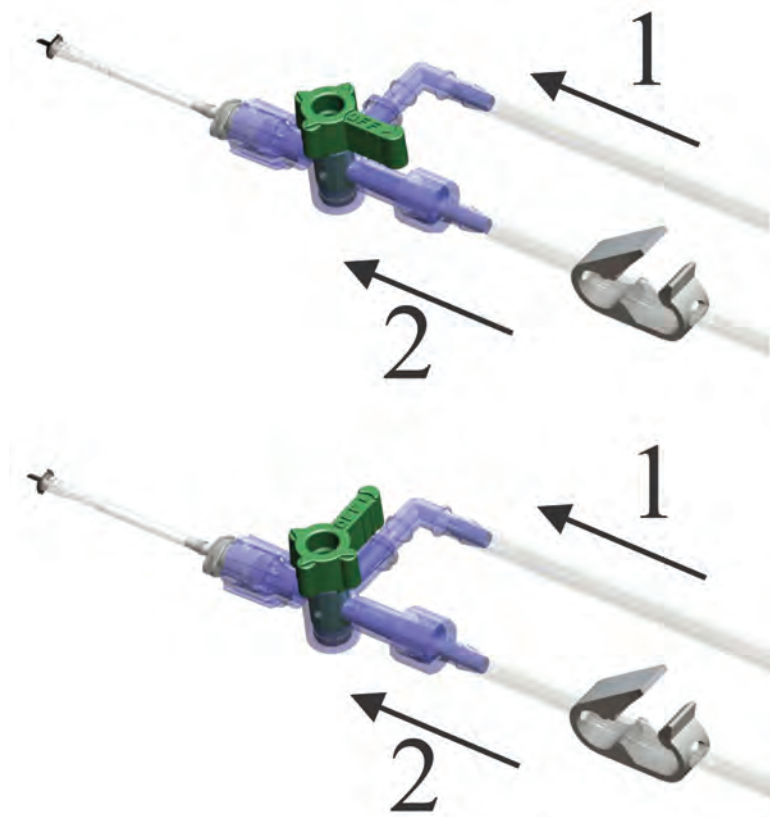

Figure 4.26. The 2-way stopcock control of Fluid/Air Exchange.
4. Turn the valve of the stopcock to stop the flow of irrigating solution and start the flow of air as shown in Figure 4.26 (top). (Scrub Nurse)